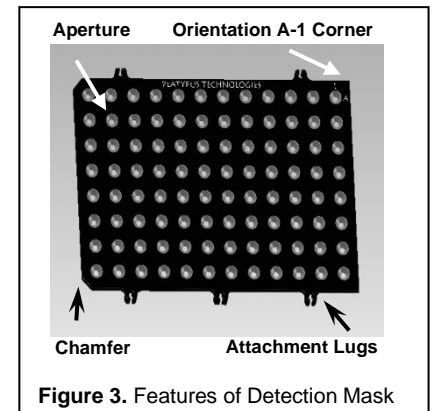

Figure 3. Features of Detection Mask
- Orient the chamfered corners of the mask with those of the 96-well plate, ensuring that the A1 corner of the mask is aligned with the A1 well of the plate (see Figure 3).